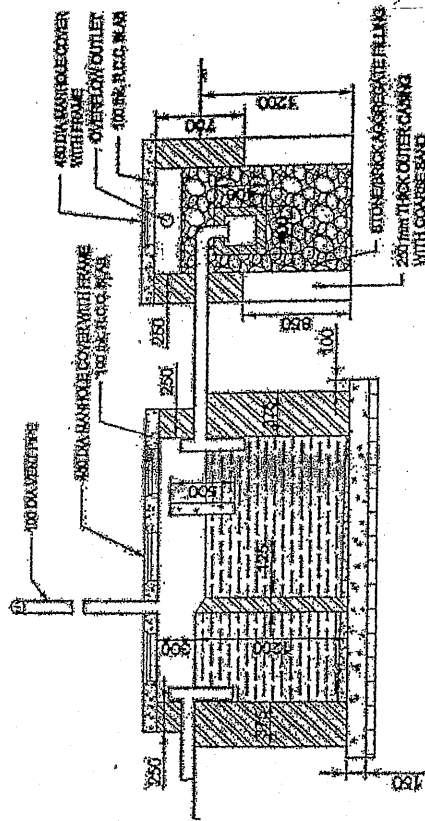

Fig 1
9. Prepare a detailed estimate of the following items from the septic tank with soak pit from the given fig 1. [4+2+2]